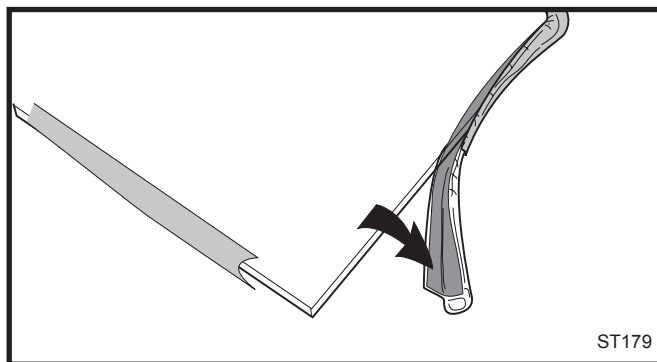

Fig. 64 Wrap the gasket material around the outside edge of the glass.
3. Starting on a long edge, remove about 6" of the protective paper strip and apply the flat adhesive face of the gasket around the outside-facing edge of the panel. Continue around the panel, applying a bout 6" at a time and being careful to not stretch the material. Do not overlap the gasket ends. (Fig. 64)